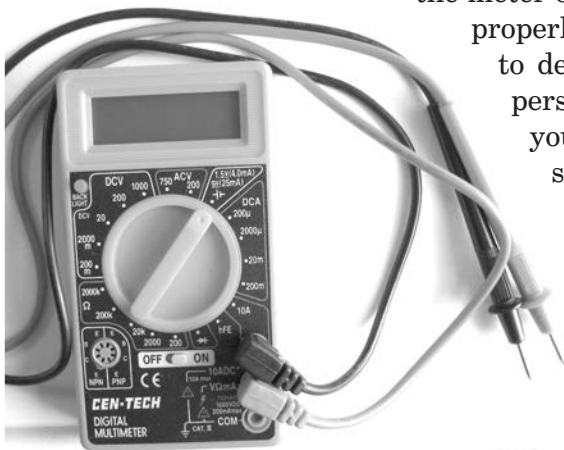

Figure 1-6
Electricians wiring residences or other small buildings actually take very few electrical measurements. However, when they need a measurement, they must know what instrument to use and how to use it. The workhorse of an electrician, and most commonly-used instrument, is the digital multimeter shown in Figure 1-6. This instrument gives readings in Alternating Current (AC) volts, Direct Current (DC) volts, ohms (resistance), or milliamperes. Prices for a digital multimeter vary from as little as \$30 for a basic model to as much as \$1,000 for a top-of-the-line, high-precision one.